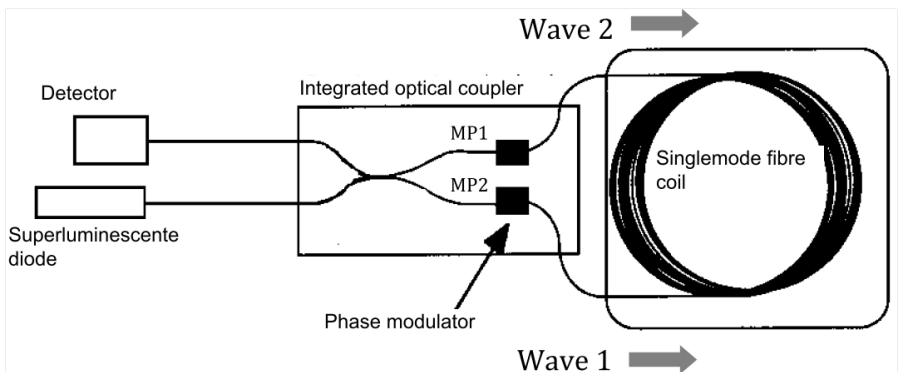

Figure 2.4: Interferometric fiber gyroscope architecture.
- Suppose that at $t = 0$, we apply an appropriate voltage to modulators MP1 and MP2 (see Fig. 2.4), then two initial wave packets propagate through the modulators and respectively acquire the phases :